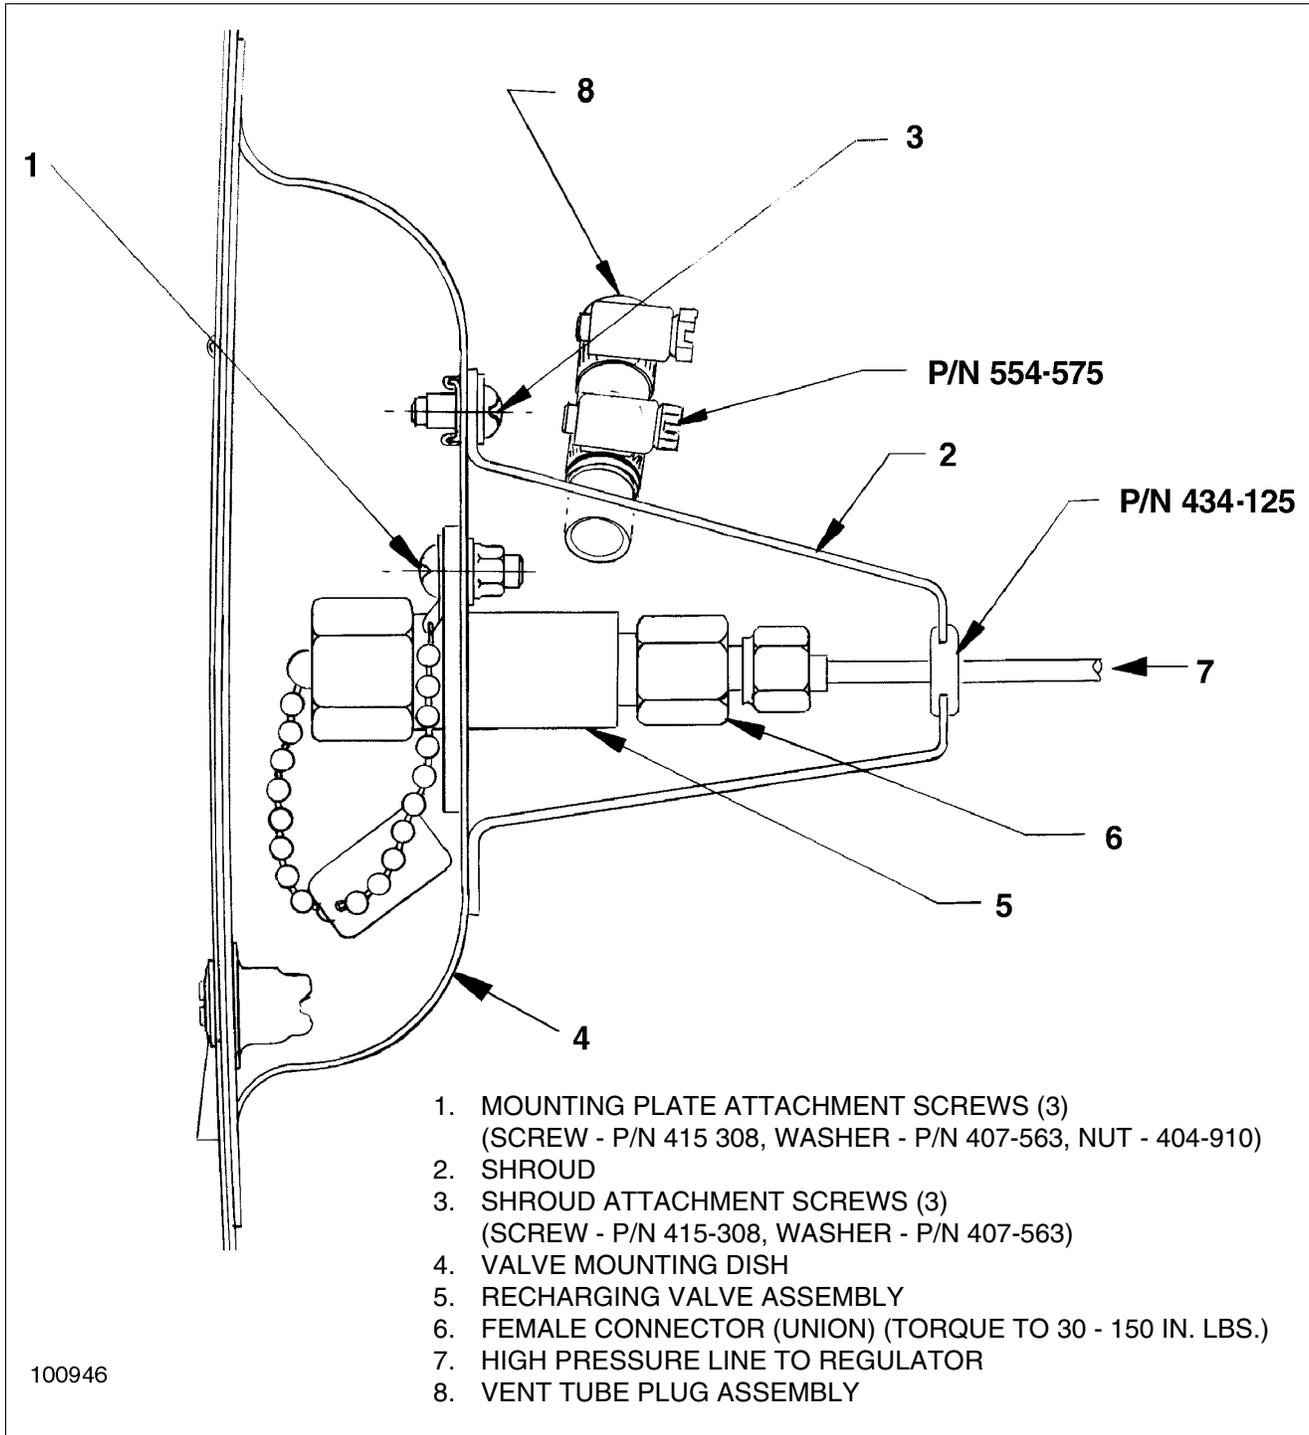

Figure 35-6. Oxygen System Recharge Valve Installation
2. Removal of Recharge Valve (See Figure 35-6)
3. Installation of Recharge Valve (Refer to Figure 35-6)